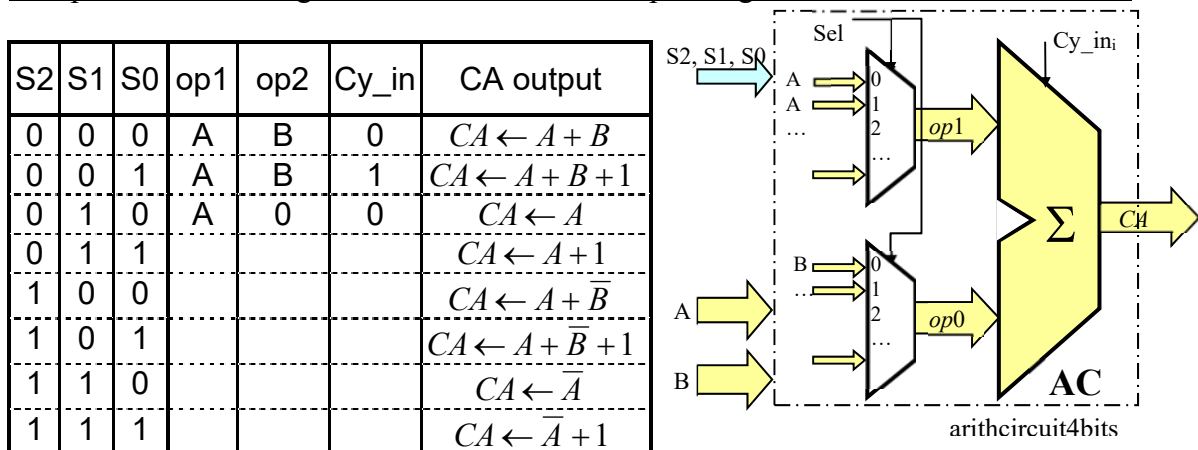

Fig. 5: AC block diagram
5.4.1. The block diagram of the Arithmetic Circuit (AC) is shown in Fig. 5. AC consists of a **4-bit full adder (Σ)** which calculates the output CA as a function of operands $op1$ and $op0$, and of the micro-operation select bits S_2, S_1 and S_0 , as described in Table 1.